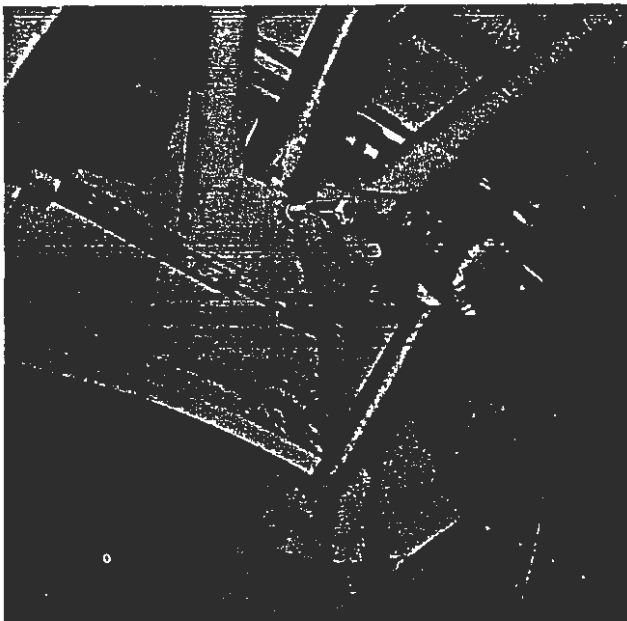

Figure 2-88. Slide Tube Marking
b. Mark slide tube to match holes in slide tube sockets with 3/8-inch transfer punch as shown in figure 2-88.
b. Mark the slide tube to match the holes in the slide tube sockets with a 3/8-inch transfer punch as shown in figure 2-88.